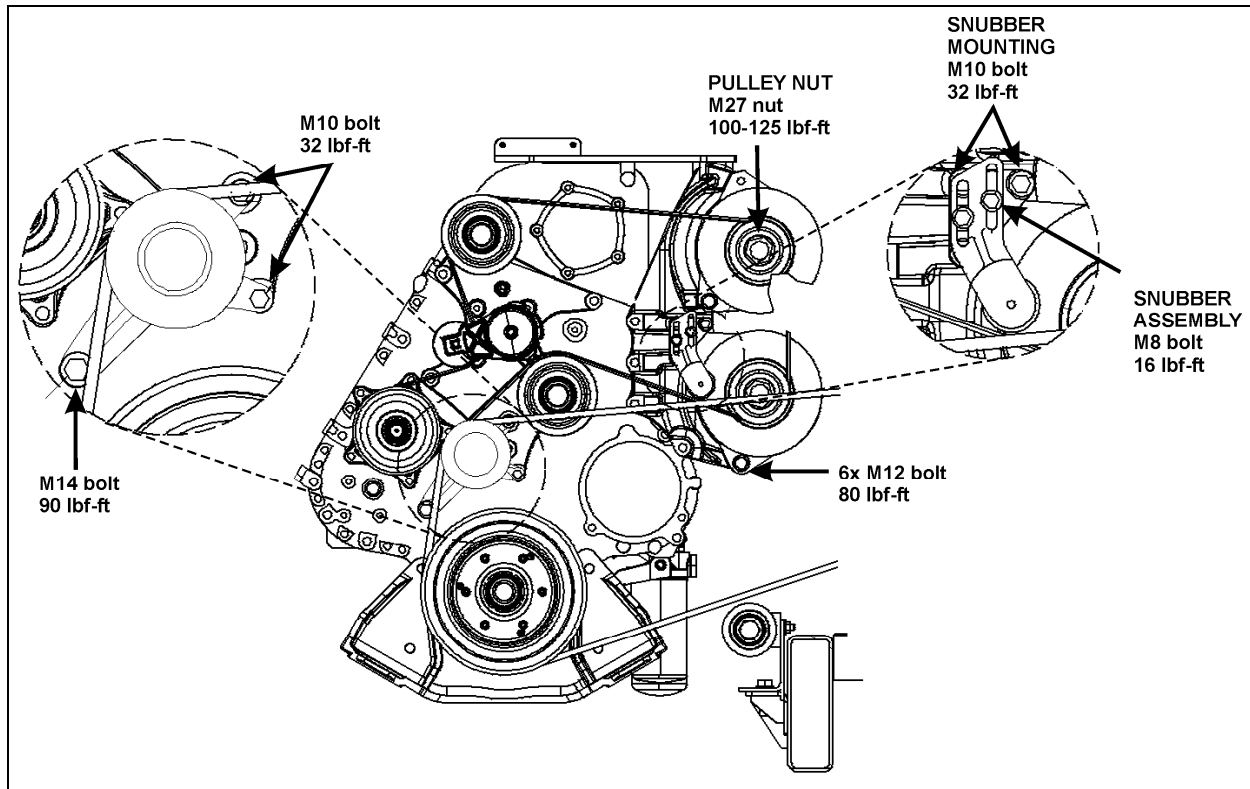

FIGURE 20: ALTERNATORS AND ACCESSORIES MOUNTING TORQUES (DDEC SERIES 60)
4. Install the snubber bracket (fig. 20) using three flanged bolts. Do not tighten the adjustment bolts on the snubber until after final tightening;
5. Install the A/C compressor belt idler pulley (fig. 20) as shown. A stud inserts into one of the mounting holes of the pulley assembly. Fasten this one using a nut and bolts for the other two.